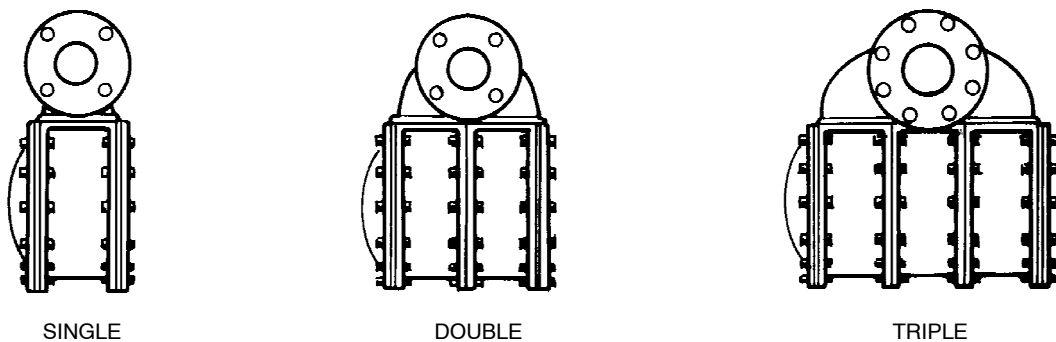

FIG 1.1 CAPSULE SIZES
- 1.3 The basic design of all the series is similar. The higher flow rating for larger meters is achieved by bolting casings together and fitting them with multiple rotor assemblies respectively with larger manifolds to suit. See Fig 1.1.